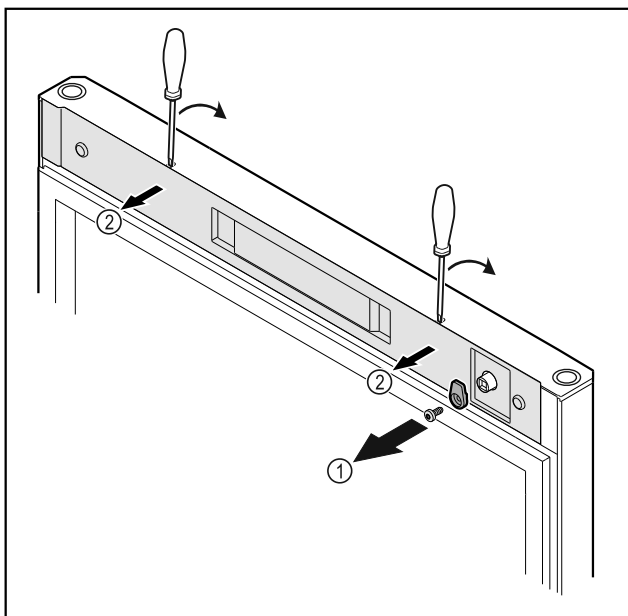

Fig. 53
- ▶ Unscrew the door latch Fig. 53 (1).
- ▶ Unlatch the cover Fig. 53 (2) with a small screwdriver and remove it.